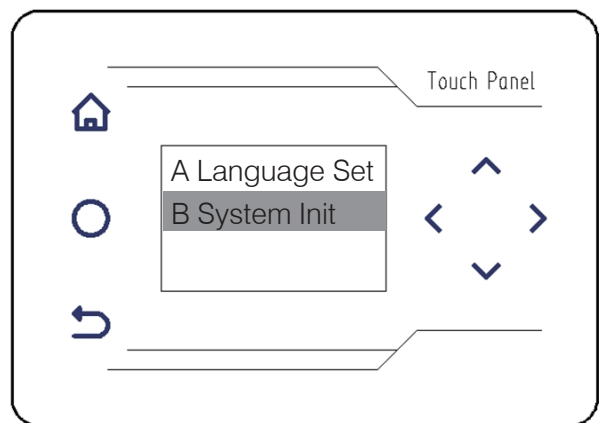

figure 46
B. Initialize the system (figure 46)
Under the sub-menu interface of "advanced Settings", press, \wedge 、 \vee add/subtract, select and press "initialization system" (figure 46),